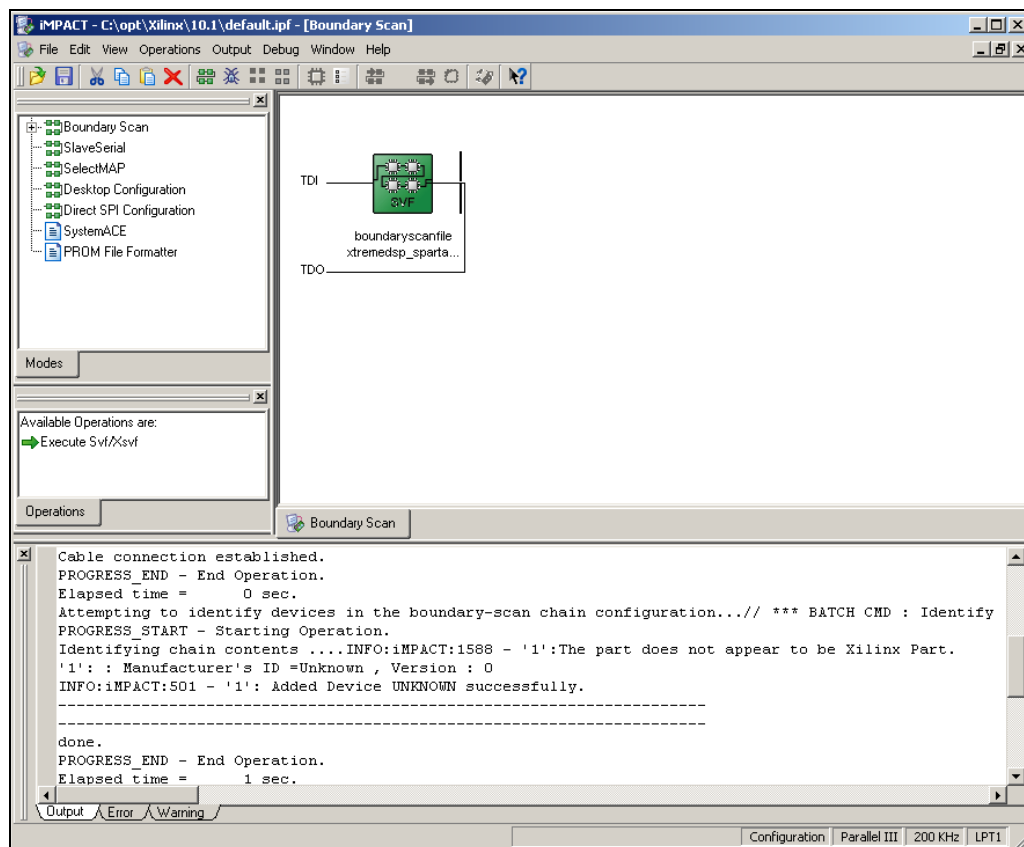

Figure 3-2: Programming the IDT5V9885 on the Spartan-3A DSP 3400A Edition Board Using iMPACT
4. Locate the SVF file (*s3adsp_clock_setup.svf*) as illustrated in Figure 3-2 and click Open.